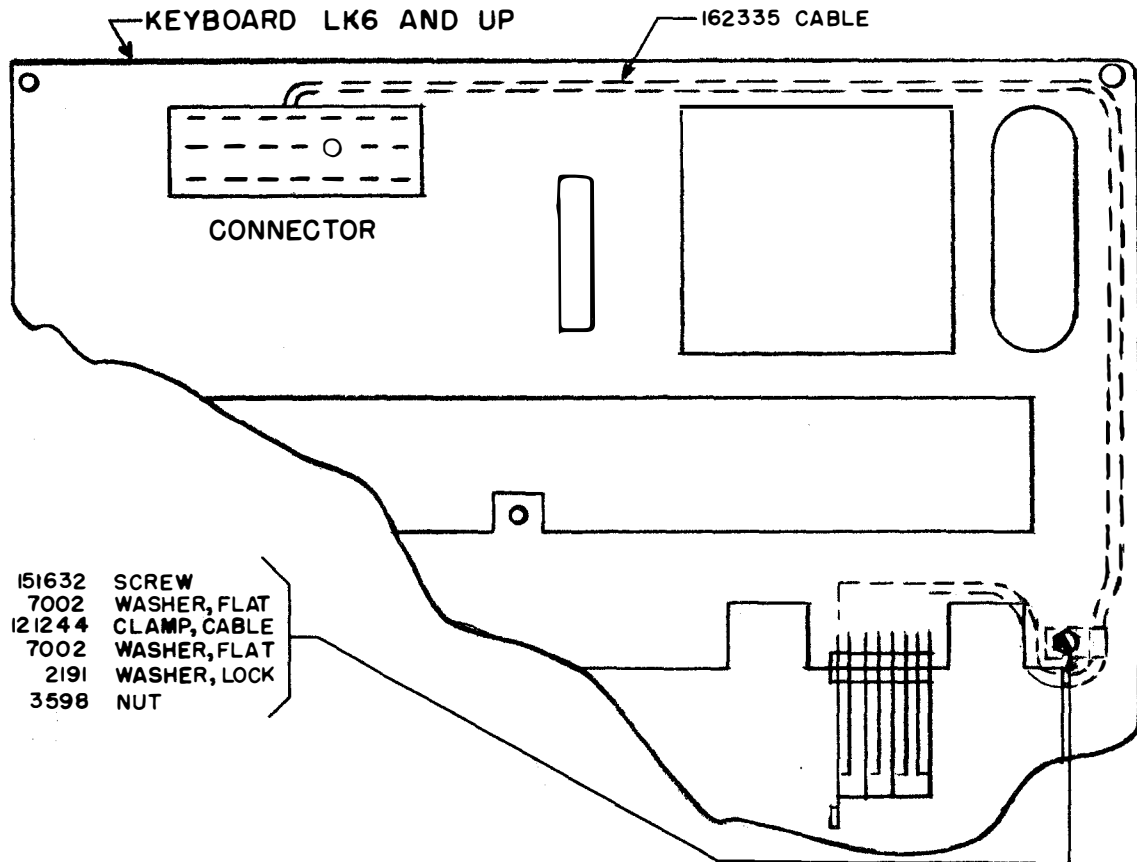

FIGURE 5. PERTAINS TO 162224 MODIFICATION KIT
\* (6) Route and clamp the 162335 Cable and solder the leads to the 158231 Contact Assembly and the connector as shown in Figure 5; place a 155753 Insulating Sleeve on each of the ten loose leads before soldering; slip the insulating sleeves over the connections after soldering. Tie the 162335 Cable as necessary.